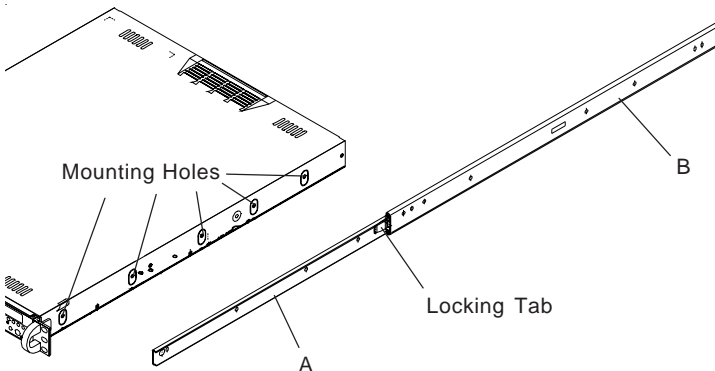

Figure 2-1. Identifying the Sections of the Rack Rails
You should have received two rack rail assemblies with the SuperServer 6013P-i. Each of these assemblies consist of three sections: an inner fixed chassis rail that secures to the 6013P-i (A) and an outer fixed rack rail that secures directly to the rack itself (B). A sliding rail guide sandwiched between the two should remain attached to the fixed rack rail. (See Figure 2-1.) The A and B rails must be detached from each other to install.